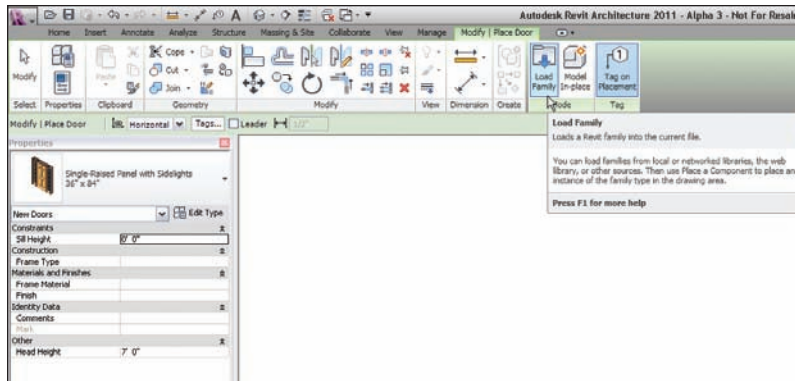

FIGURE 1.53 You can load an .rfa file during the placement of a hosted family.
4. On the Modify | Place Door tab, click the Load Family button, as shown in Figure 1.53. This will open the Load Family dialog.